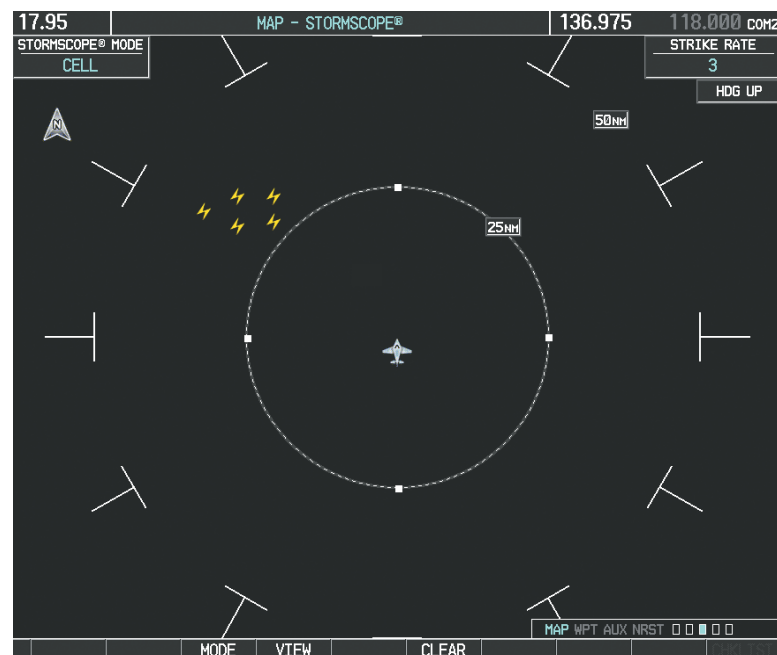

Figure 6-122 Stormscope Page
- 2) Turn the small **FMS** Knob to select the Stormscope Page (Figure 6-122).